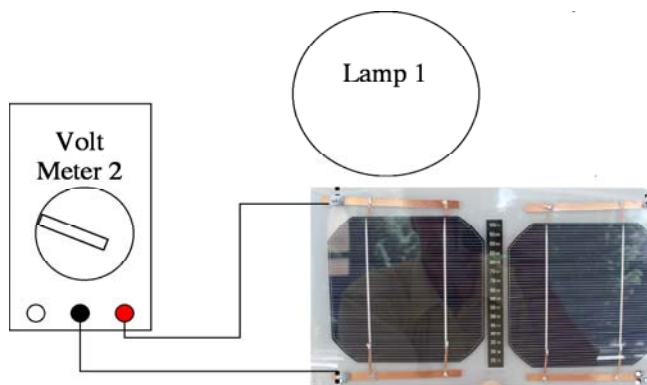

Fig. B.1: Connections for measuring open circuit voltage
1. Connect one Soar Cell in the PV Module to the volt meter as shown in the Fig. B.1. The red connector is the + output of the cell. The + output connects to the VΩmA input on the meter. The negative black output of the cell connects to the COM input of the meter. Set the meter dial to the 2 VDC setting, that is the “2” setting on the left side of the dial. Place the desk lamp **as close as you can** to the PV cell, and measure the actual distance between the bulb and the cell and the open circuit voltage measured by the meter. Record these voltage measurements in Table B.1. (If your voltage reading is zero, check your connections and meter settings or ask an instructor for assistance.)